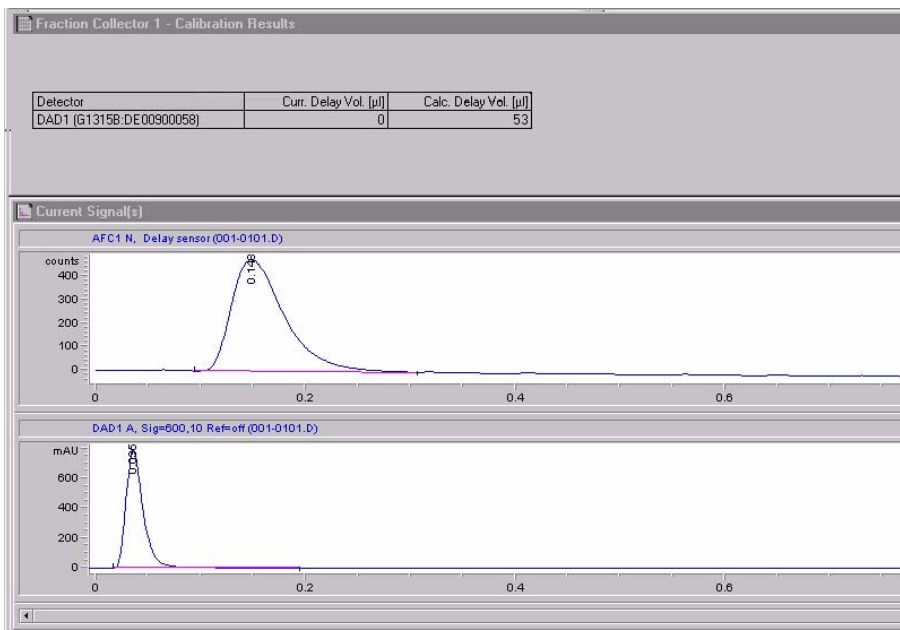

Figure 20 Delay Calibration Results Panel
- 10 When the calibration run has finished, click **OK**. The Calibration Results panel (see Figure 20) is displayed.